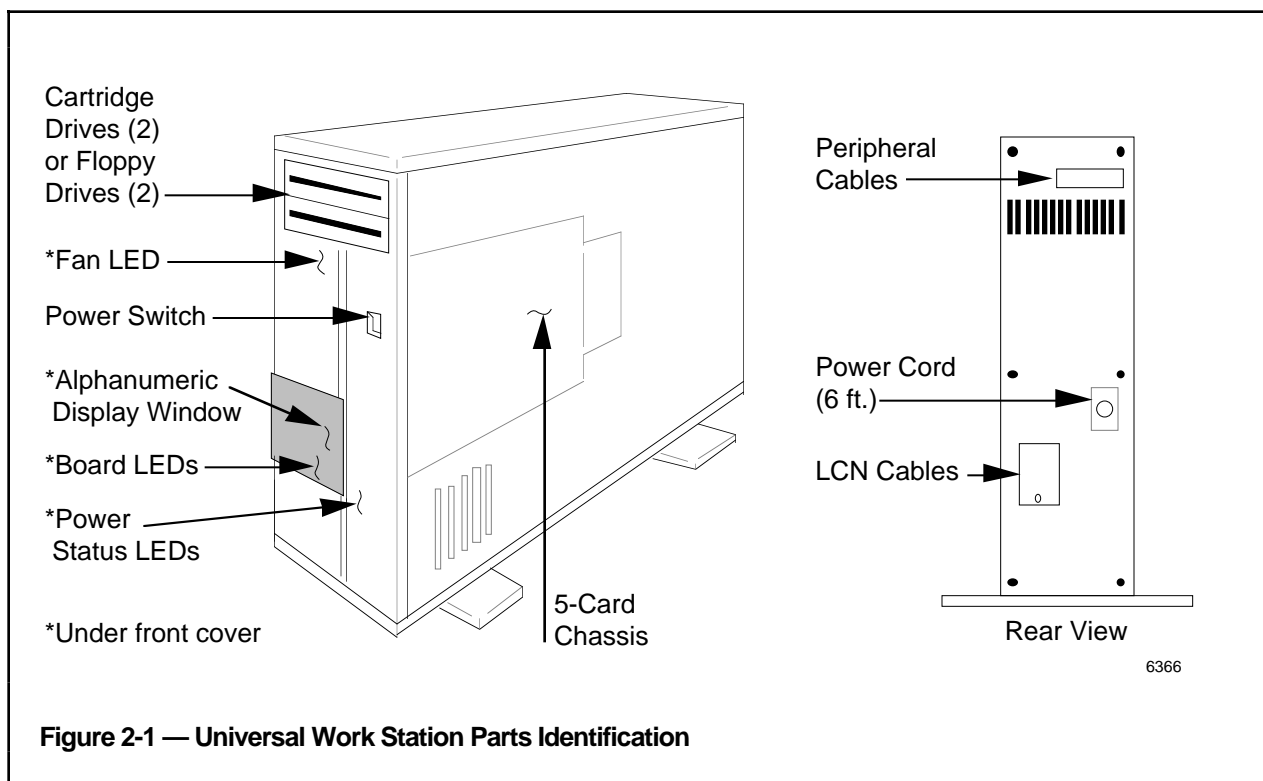

Figure 2-1 — Universal Work Station Parts Identification
1. Refer to Figure 2-1. Push power switch on the front panel to the OFF position. Unplug the power cord and remove six screws from the rear panel. Note that the screws require star washers. Set the panel close to, and beside, the rear opening.
In later-production versions of the UWS that include the floppy or cartridge drives, the separate floppy disk or Winchester Power Supply shown in Figures 2-1 and 2-5 is not used. In these later units, power for the drives is taken from the Enhanced Power Supply in the Five-Slot Module, using cable 51304490-100.
4. Thread the LCN cables through the LCN cable cutout in the lower rear panel (see Figure 2-1 and 2-3). Attach LCN Cable A to the connector marked LCN A on the LCN I/O board. In a similar manner, attach Cable B to the LCN B connector.
3. Route the monitor cable through the cutout in the rear panel (see Figures 2-1 and 2-3). Connect the monitor cable to the monitor connector (top position) shown in Figure 2-3. Attach the cable to the connector with the screws in the connector. Use two of the cable ties provided to secure the connector. Refer to Figures 2-3, 2-4, and 2-5.
4. Route the keyboard cable through the cutout in the rear panel (see Figures 2-1 and 2-3). Connect the monitor cable to the monitor connector (bottom position) shown in Figure 2-3. Attach the cable to the connector with the screws in the connector. Use two of the cable ties provided to secure the connector. Refer to Figures 2-3, 2-4, and 2-5.
In later-production versions of the UWS that include the floppy or cartridge drives, the separate floppy disk or Winchester Power Supply shown in Figures 2-1 and 2-5 is not used. In these later units, power for the drives is taken from the Enhanced Power Supply in the Five-Slot Module using cable 51304490-100.
Refer to Figure 2-1 for the location of parts mentioned in the following text.